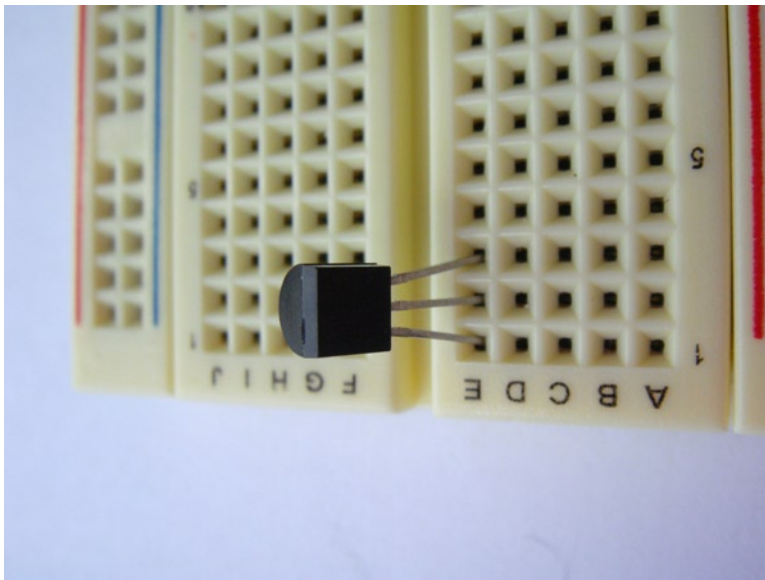

Figure 3-8. *The DS1820B inserted*
2. Now that you have pin 1, insert the sensor into your breadboard. To make it easy for yourself, insert pin 1 into row 1 on the breadboard. You can see how I have inserted my sensor in row 1 at the top of the breadboard in Figure 3-8.